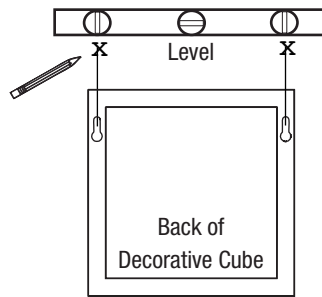

Figure 1
STEP 1: Select installation areas and mark keyhole locations on wall the correct distance apart. Use a level to make sure shadow boxes will be straight as shown in **Figure 1**.